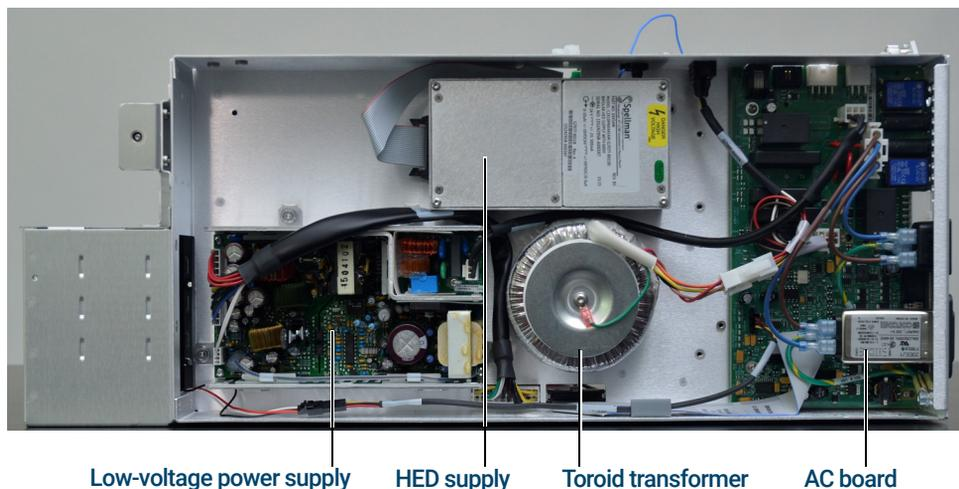

Figure 49. Electronics module, side 1
- AC board (power distribution/vacuum control board) (See **Figure 49**.)
- Low voltage (AC-DC) power supply (See **Figure 49**.)
- High-voltage (HED) power supply (See **Figure 49**.)
- Toroid transformer assembly (See **Figure 49**.)